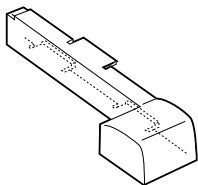

Figure 1-3 Battery Adapter for Multi-function Bay 2
- Battery adapter for Multi-function Bay 2 (located in the accessories box.) (Figure 1-3.)